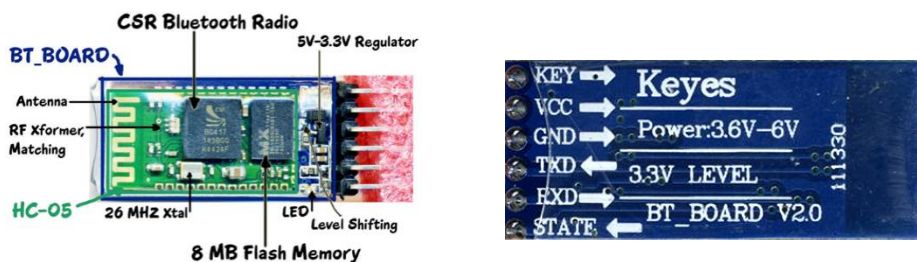
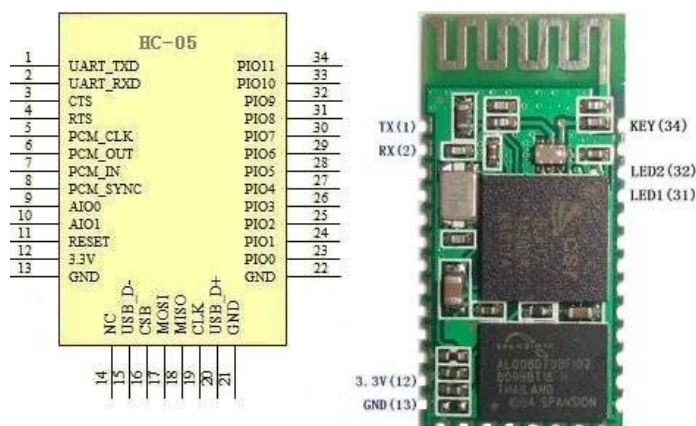

Fig 1. Front and Rear View of HC-05
Fig. 2 Pin Diagram of HC-05 Module
Bluetooth is a wireless technology standard for exchanging data over short distances (using short-wavelength UHF radio waves in the ISM band from 2.4 to 2.485 GHz) from fixed and mobile devices, and building personal area networks (PANs). Range is approximately 10 Meters (30 feet). These modules are based on the Cambridge Silicon Radio BC417 2.4 GHz Bluetooth Radio chip [3]. You can check the datasheet for more detail on HC-05 module [4]. Front view with component specification and rear view is shown in Fig. 1 and the pin diagram is shown in Fig 2.[5].
- Connect Key pin (34) to 3.3V pin (12).
- Connect RX pin of FTD232r [6]to TX pin (1) of HC-05 module and TX pin of FTD232r to RX pin (2) of HC-05 Module (see fig.1 for TX and RX connection)
- Connect 5V supply to VCC and GND to GND between FTD232r and HC-05 module (see Fig. 1).